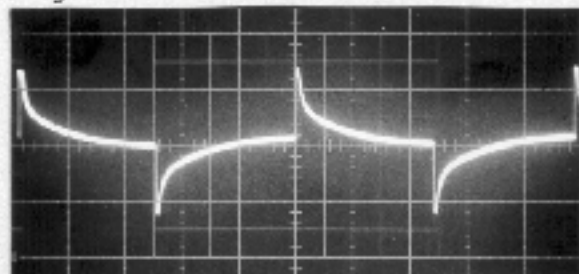

Fig. 10. Lo-Cut in.
- 6) Engage low-cut switch, compare to Fig. 10. Disengage.